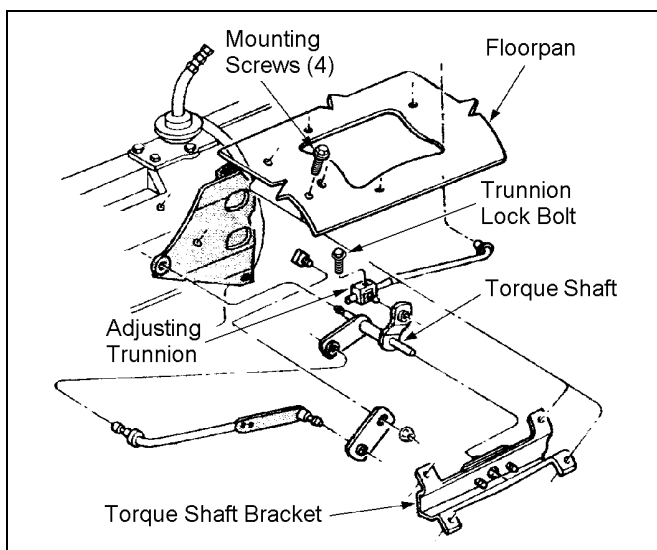

Figure 19
- 2) Remove the four screws that attach the torque shaft bracket to the floor pan. See figure 19.
- 4) Attach the shift relocating bracket 176090 to the torque shaft bracket as shown in figure 19. Use the hardware from kit 860160.